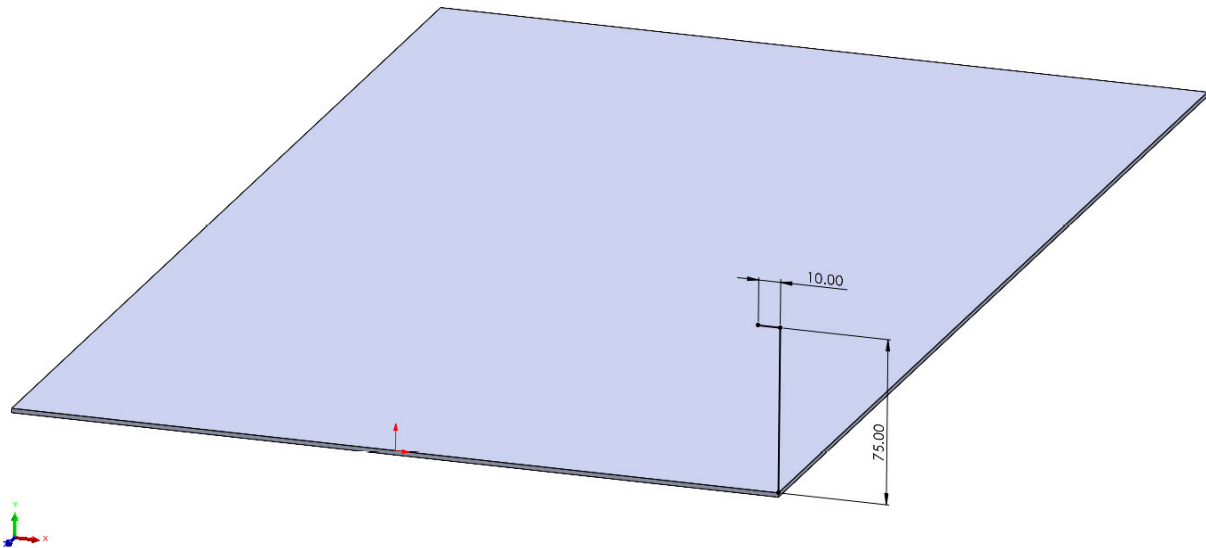

Figure 13.2 – Sketching the Miter Flange profile
4. Start a Sketch on the small end face of the **Base Flange** and use the **Line** tool to draw the profile shown in *Figure 13.2*. The vertical line is **75mm** long and the small, horizontal line is **10mm** long: